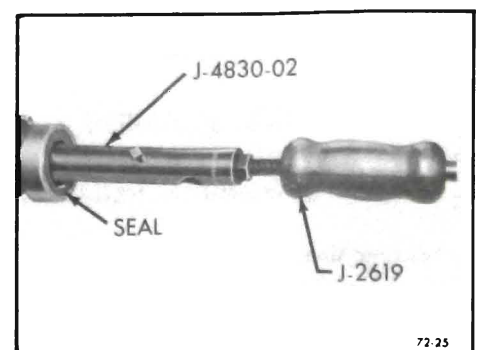

Figure 72-414 - Removing Case Extension Oil Seal
- Using J-2619 slide hammer and J-4830-02 puller, remove case extension oil seal. See Figure 72-414.